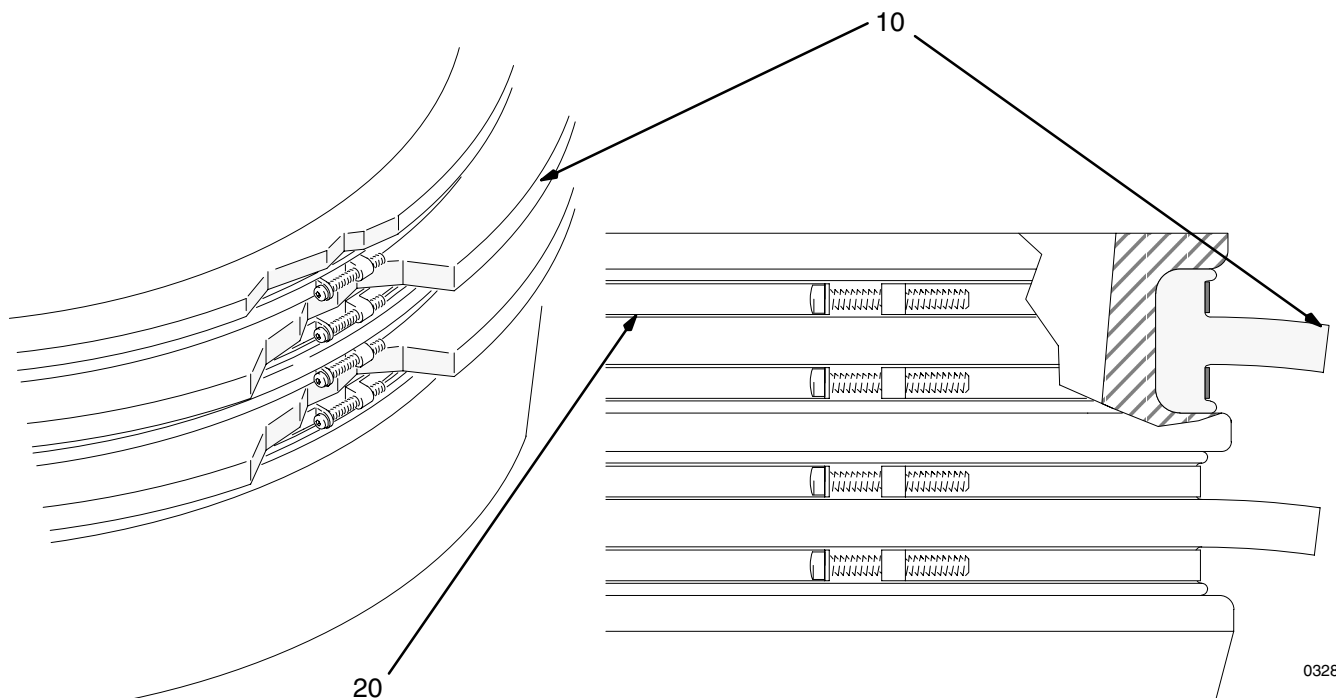

Fig. 1
1. Pull the top wiper over the platen assembly. Roll the first wiper ring (10) down to the top ring groove as shown in Fig. 1.
2. Install the first upper band (20) over the wiper ring, placing it in the top groove of the wiper.